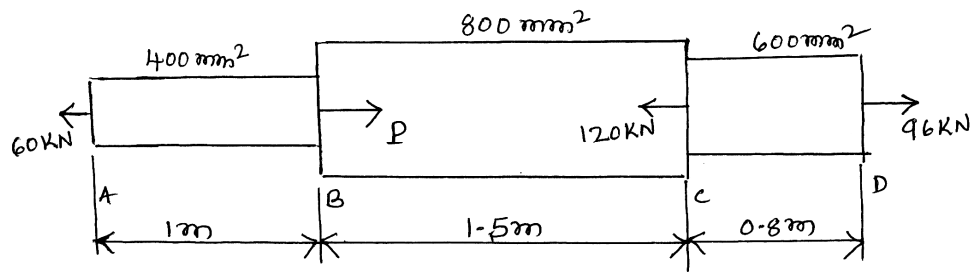

Fig. Q2(a).
- 2 a. A settle bar ABCD of varying sections is subjected to the axial forces as shown in Fig. Q2(a). Find the value of 'P' necessary for equilibrium. If  $E = 210 \text{ kN/mm}^2$ . Determine;